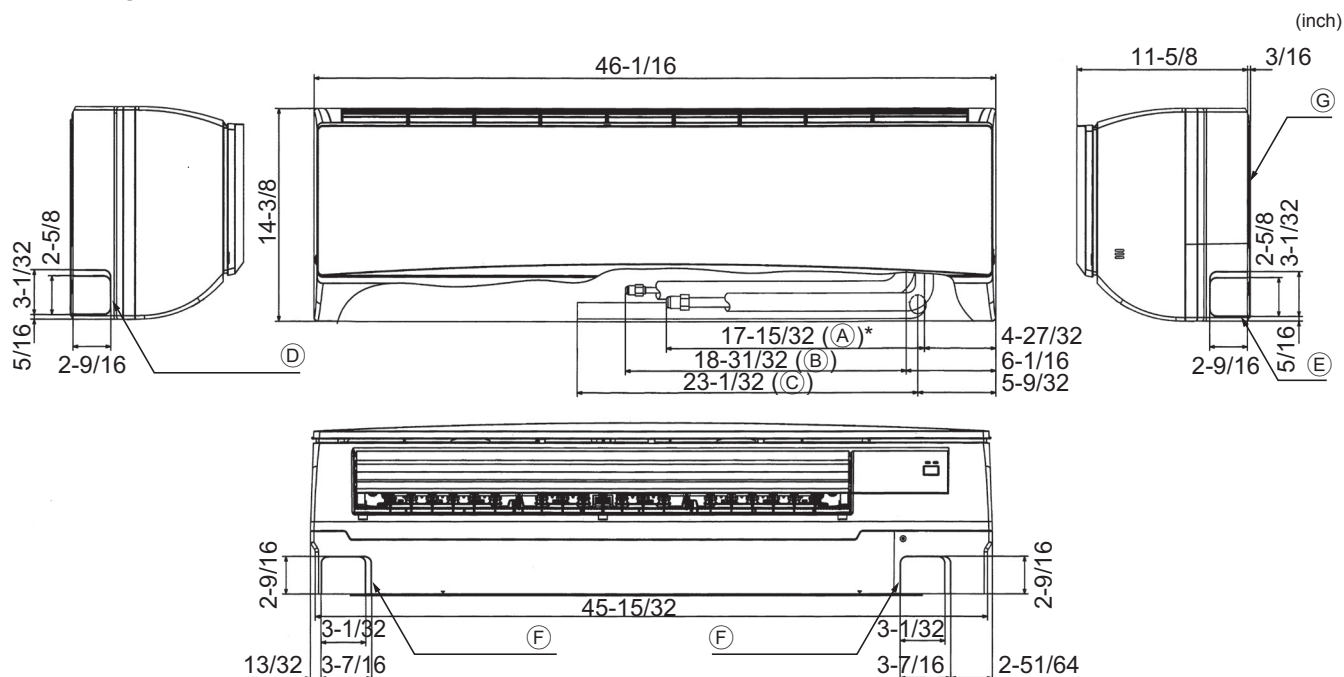

Fig. 4-2
4.2. Positioning refrigerant and drain piping (Fig. 4-2)
- (A) Gas pipe
- (B) Liquid pipe
- (C) Drain hose
- (D) Left-side piping knockout hole
- (E) Right-side piping knockout hole
- (F) Lower piping knockout hole
- (G) Mount board (1)